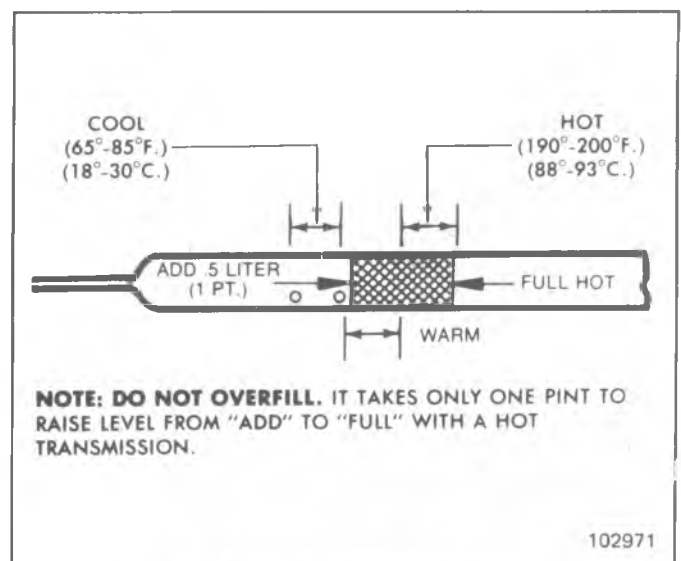

Fig. 7A-5 -- Transmission Dipstick
11. Lower vehicle and add the proper amount of DEXRON®-II automatic transmission fluid or its equivalent through filler tube (Figure 7A-4).